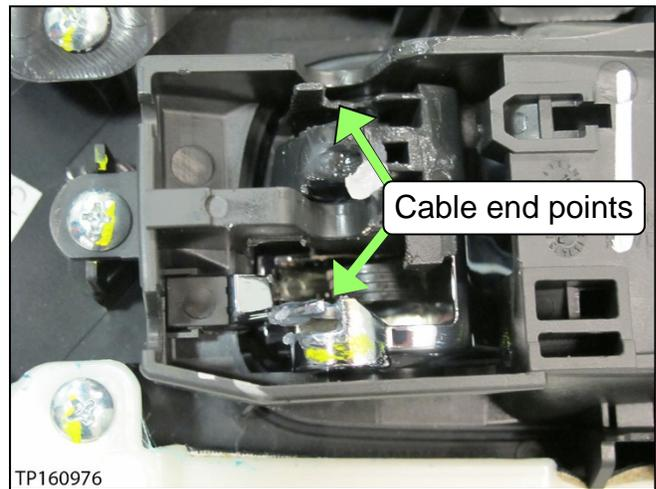

Figure 16
4. Inspect the inside door handle snap grooves and cable end points for damage (see Figure 16 and 17).